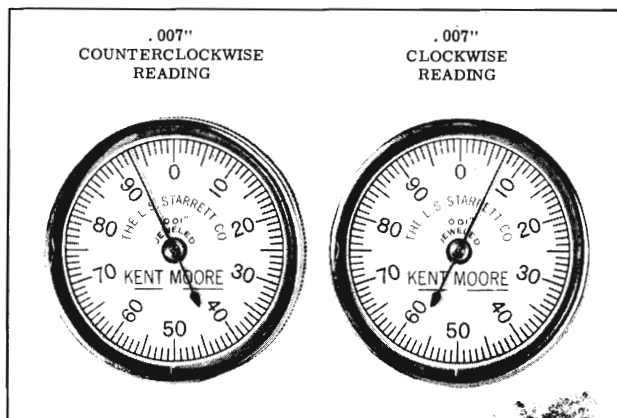

Fig. 6-129 Reading Gauge
5. Press gauge rollers, J-5647-5, firmly down against carrier side bearing seats and read dial indicator, noting whether the needle has moved clockwise or counterclockwise from the zero mark. (Fig. 6-129) If the depth adjustment is correct, the reading on the gauge will match the number on the pinion. Counterclockwise readings are minus and clockwise readings are plus.